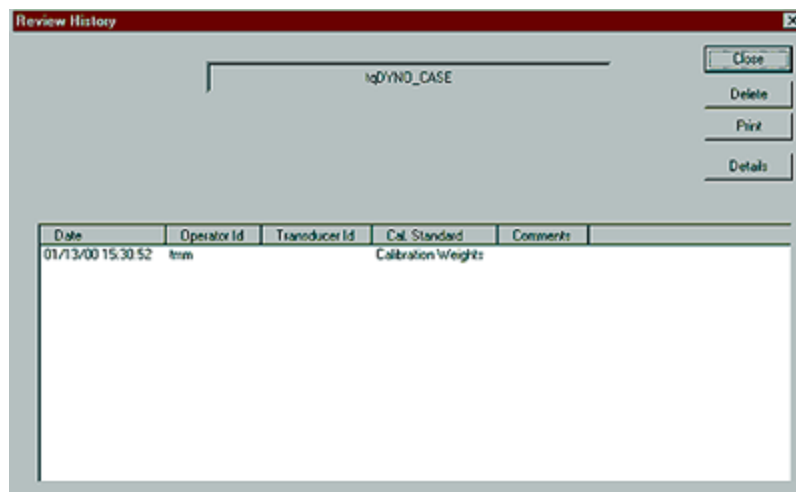

Figure 9
- 151 Ensure that “tqDYNO_CASE” appears on the “Review History” screen in the “Channel Name” box. See Figure 9.